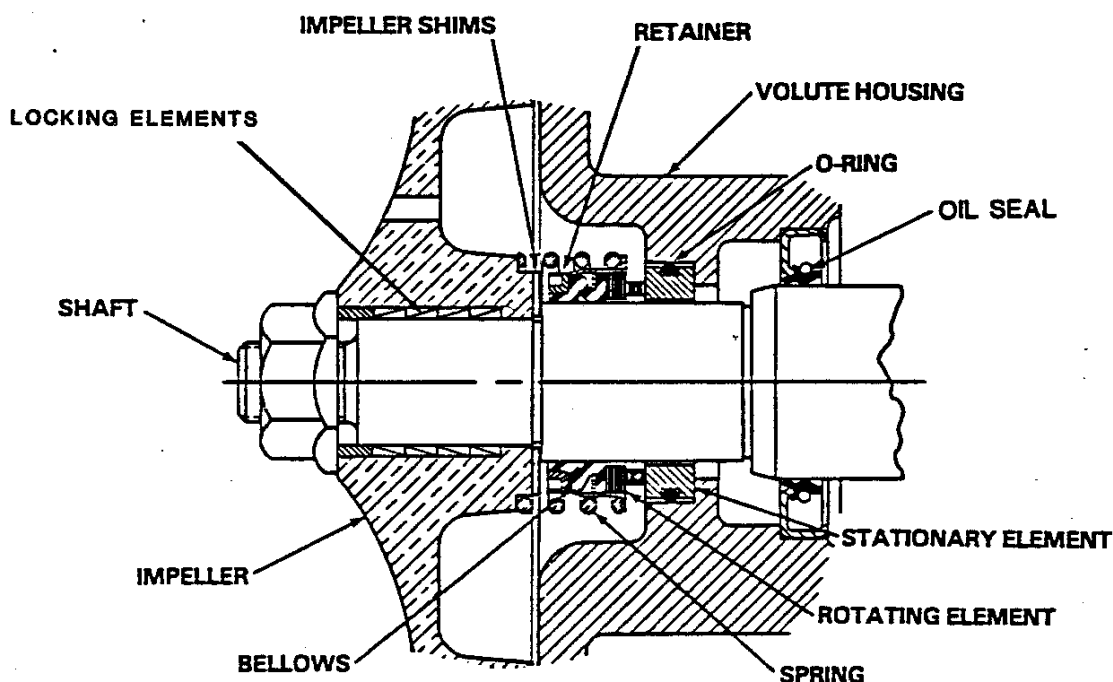
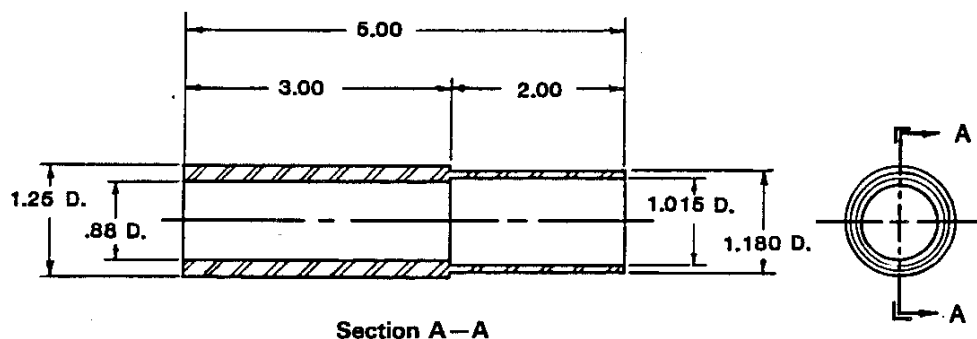

Figure 4. 25271-192 Seal Assembly
Figure 6. Locking Element Installation Tool
Replace the gearbox oil seal (11) if defective. It is recommended that a tapered sleeve be installed over the seal area of the shaft to prevent rolling the lip of the oil seal during installation. (See Figure 4 for detail of seal area). Lubricate the oil seal and sleeve to ease installation.
Place a drop of light lubricating oil on the seal faces; **never** use grease. Lubricate the O-ring and install it in the stationary seat. Use thumb pressure to press the seat and O-ring squarely into the seal bore. Be careful not to damage the seal face. Lubricate the shaft bellows with a small amount of light oil, and install the bellows and rotating elements as shown in Figure 4. Install the seal spring, making certain that all components of the seal are seated squarely.
Position the impeller on the shaft. The locking elements **must** be installed in inner-ring, outer-ring sequence within the impeller hub bore as shown in Figure 4. It is recommended that a special tool (not furnished by Gorman-Rupp) be used when installing the locking elements; see Figure 6. This tool can be made from 1 1/4-inch O.D. X 7/8-inch I.D. round steel tubing.